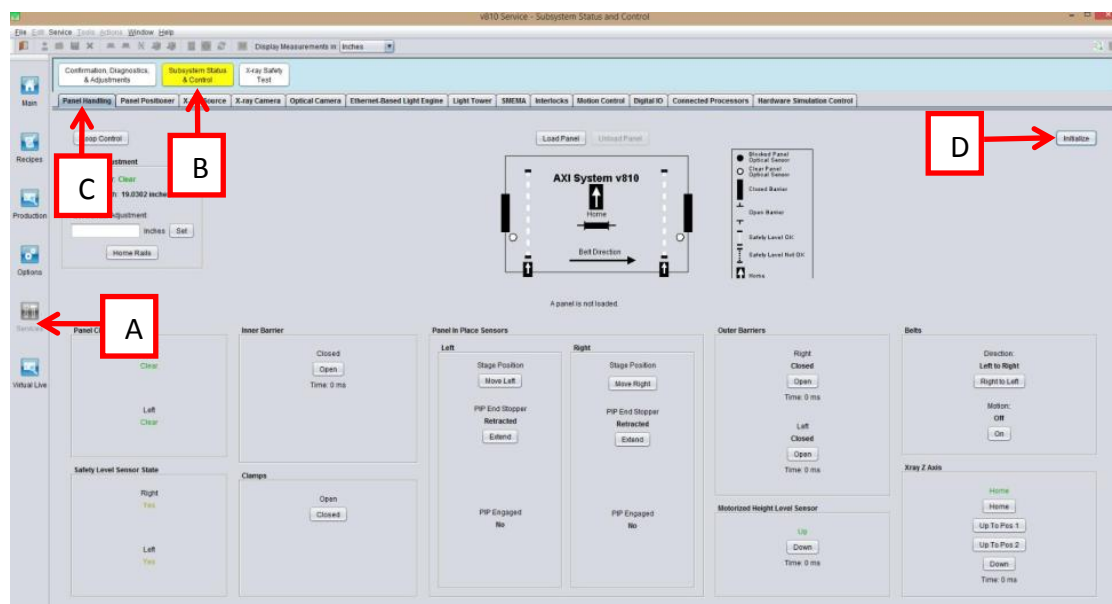

Figure 22 Panel Handling
4. At V810 GUI, go to Services -> Subsystem Status & Control -> Panel Handling and Click "Initialize" as shown in Figure 22